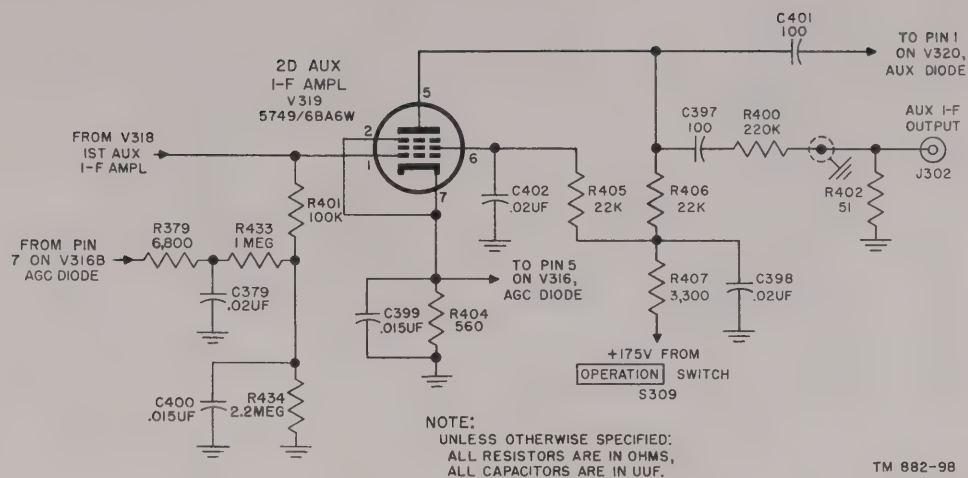

Figure 63. Second auxiliary i-f amplifier.
- (1) From the plate, through C396 and C397, furnishing excitation to the second auxiliary i-f amplifier, V319.
- (2) From the junction of R400 and R402 to the aux i-f output jack, J302, on the rear apron of the main chassis.
b. Second Auxiliary I-f Amplifier (fig. 63).